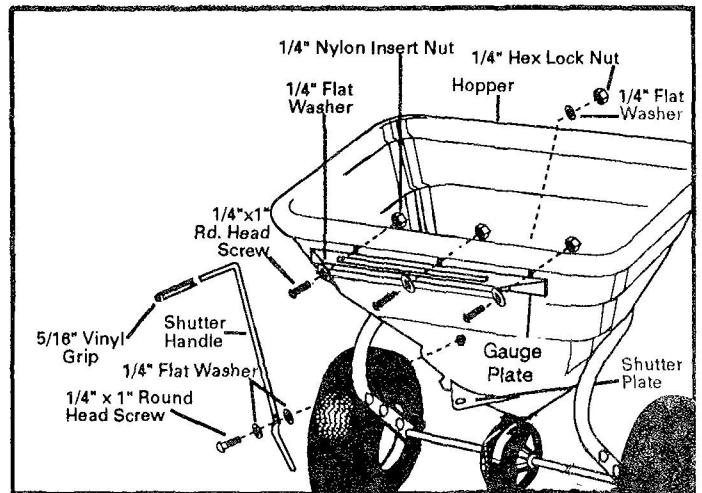

FIG. 7.
Refer to FIG. 7.
- The control lever operates the flow control shutter. The flow control decal (Fig. 7) is marked OFF to 10. The position selected determines the amount of material to be broadcast. The higher the number, the heavier the application of material.
NOTE: Close shutter before filling hopper. Keep the plastic knob (Fig. 7) and gage stop tight at all times.